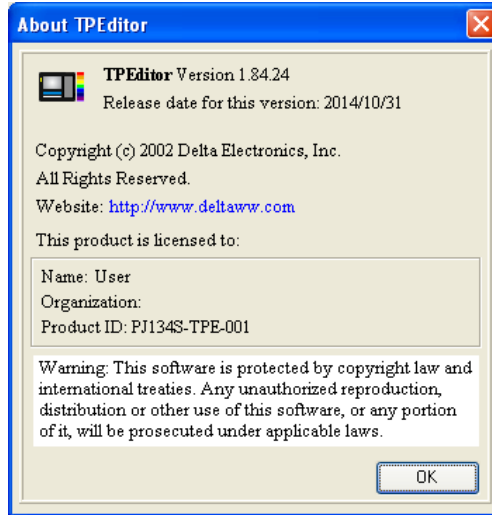

Figure 3-18 About
- **About:** The information about TPEditor is displayed, as shown in Figure 3-18.